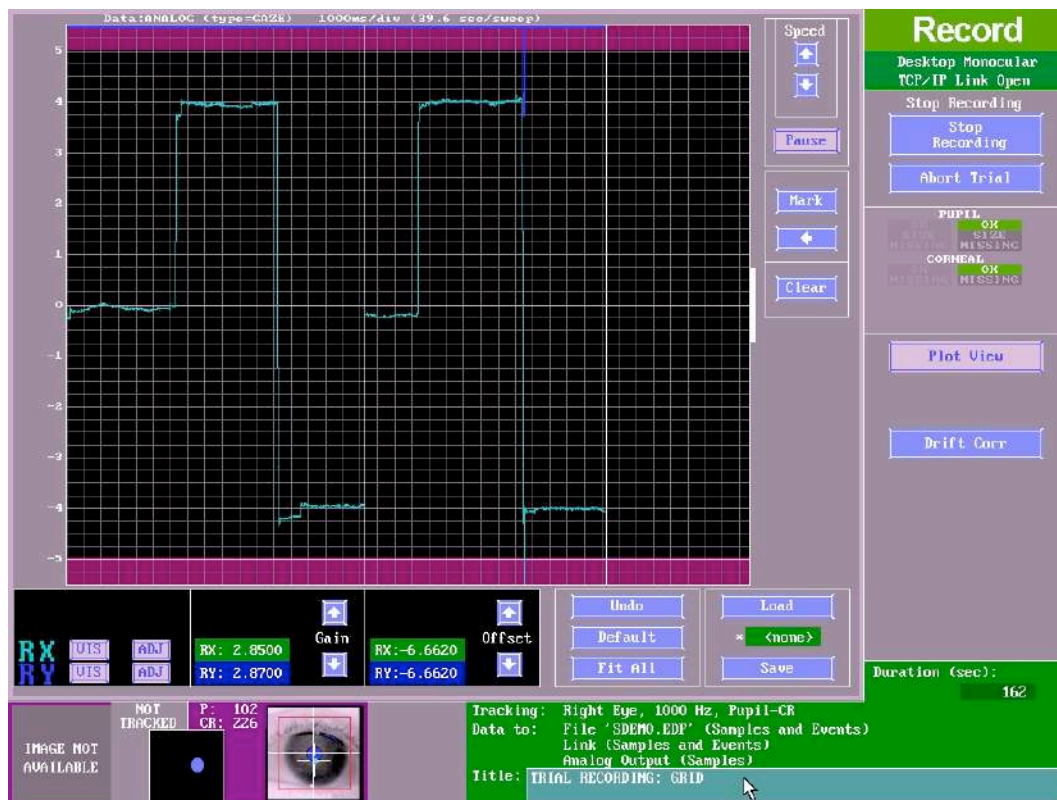

Figure 2-13: Gain/Offset Adjustments in the Plot View
The top of the Plot View shows the data type being plotted. The “Gaze” option plots the participant's gaze position in pixel (x, y) display coordinates. The “Angle” option plots the amount of x, y eye angle in degrees relative to the center of the screen. The “HREF” option plots eye rotation angles relative to the head in HREF coordinate (see Section 4.4.2.2 “HREF”). The “Raw” option plots the raw (x, y) coordinate pairs from the camera. The “Analog” option plots the x, y coordinate in voltages as done with the analog card output. The top-right lists the speed of plotting (i.e., amount of data being plotted in each screen). Figure 2-13 provides an example recording screen with a plotting speed of 7.9-seconds per sweep (each horizontal division represents 500-ms worth of data).
- 8) Now your “calibration” is done. Click on the “Pause” button to continue recording (see Figure 2-13 for an example of testing the “calibration” accuracy).